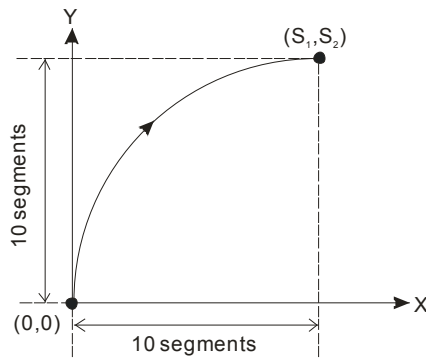
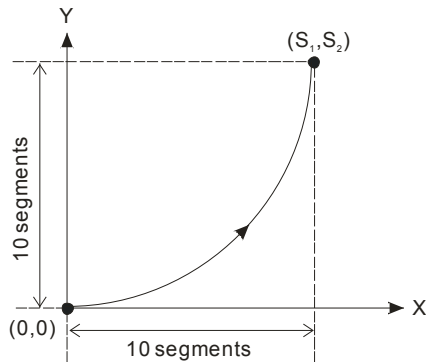

Figure 1
Figure 3
- The lower 16 bits of **S** (settings for the direction and resolution): K0 refers to clockwise 10-segment (average resolution) output; K2 refers to clockwise 20-segment (higher resolution) output for a 90° arc (see figure 1 and 2). K1 refers to counterclockwise 10-segment (average resolution) output; K3 refers to counterclockwise 20-segment (higher resolution) output for a 90° arc (see figure 3 and 4).